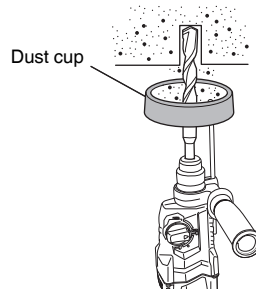
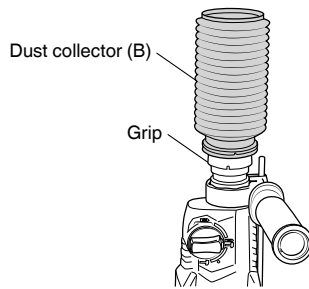

Fig. 3
Fig. 4
### 5. Installation of dust cup or dust collector (B) (Optional accessories) (Fig. 3, Fig. 4)
Use the dust cup by attaching to the drill bit as shown in Fig. 3.
- Installing dust collector (B)
When using dust collector (B), insert dust collector (B) from the tip of the bit and allow it to cover the grip (Fig. 4).